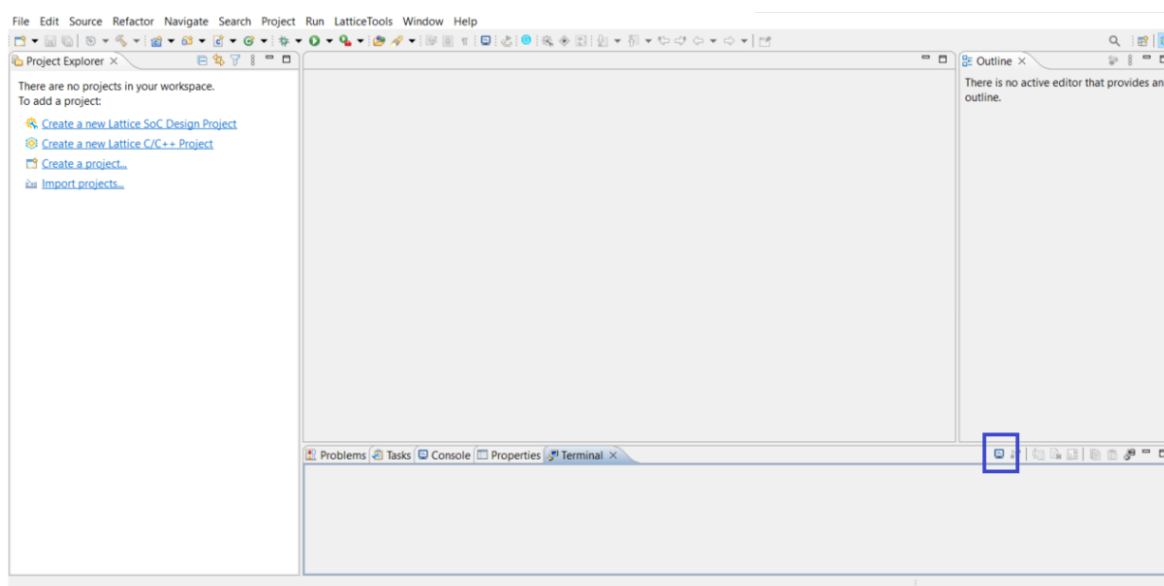

Figure 7.4. UART Terminal Icon on Propel SDK Window
3. Double-click on the terminal button shown in Figure 7.4.